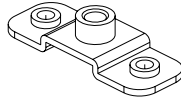

Figure 2.3: Stand-off bracket
2. Users can find the stand-off bracket (*see Figure 2.3*) in the accessory box. Be sure to follow the instruction and fasten the motherboard onto the chassis with the stand-off bracket locations.